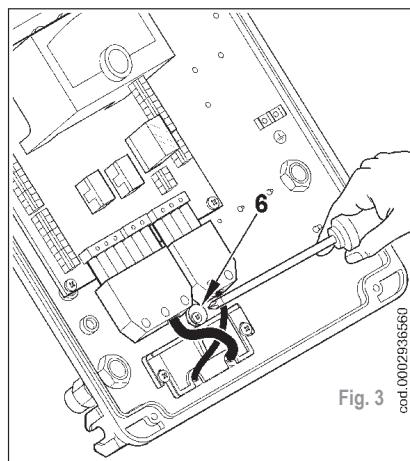

Fig. 3
- Reposition the cable float plate as in figure 3. Turn the cam (6) so that the plate exerts sufficient pressure on the two cables, then tighten the screws that fasten the plate. Finally connect the two 7 and 4-pole plugs.